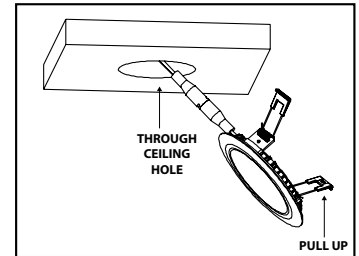

Figure 5
5. Pull the spring clip on the fixture up and through the ceiling hole and place module in the hole making sure the spring clips are holding securely. (Figure 5)